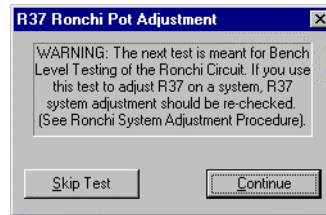

Figure 8-19 R37 Ronchi Pot Adjustment Dialog Box
- b. Click on Continue when the dialog box shown in Figure 8-19 appears.